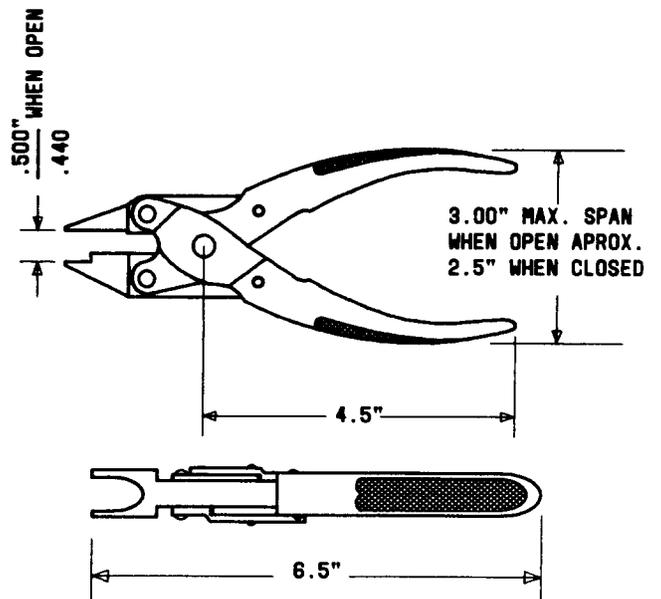

Fig. 31—KS-22386, L1, Cap Inserter Tool
2.33 **KS-22386, L1**: The KS-22386, L1, cap inserter tool (Fig. 31) is used to install shielding caps on right angle, miniature coaxial connectors similar to KS-20864, L3 and L4.